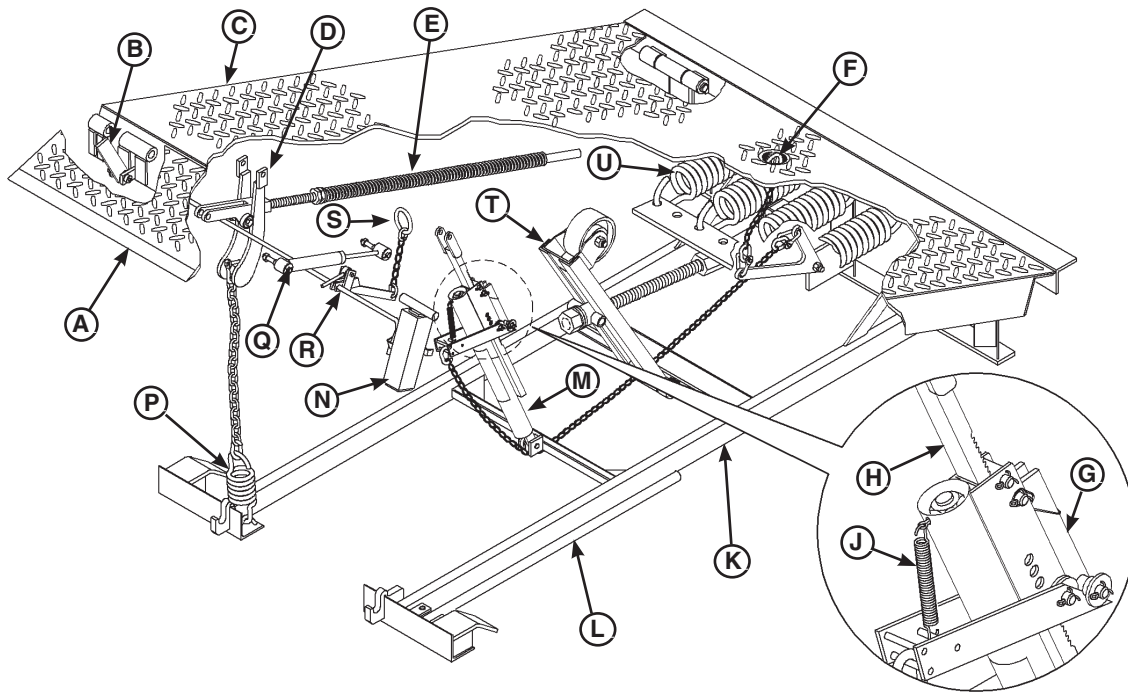

Figure 11
The HM-Series mechanical dock leveler uses lift springs (U) to apply force to lift arm (T). The lift arm pushes against the cam mounted under the platform (C), rolling on the cam (not pictured), forcing the platform to rise. The force of the spring is just enough to lift the weight of the platform (Figure 11).
To actuate the dock leveler platform, the operator pulls and holds the platform release ring (F) located in the recess at the rear of the platform. This allows ratchet pawl (G) to disengage from ratchet bar (H). With the ratchet pawl disengaged, spring tension from lift springs (U) forces the platform to rise (Figure 11).
**NOTE:** Ratchet pawl (G) and bar (H) are part of the hold-down mechanism (M).
The ratchet pawl disengages only when the platform release ring (F) is pulled AND held. Spring tension from release arm spring (J) causes the ratchet pawl to engage the ratchet bar when the release ring is let go (Figure 11).
When the platform rises to approximately 2 – 3 inches (51 – 76 mm) from its full raised height, the snubber spring (P) and a chain pulls the lip banger (D) forward. This, in conjunction with the lip assist spring (E), causes the lip linkage to push the lip out and up. The lip assist spring also helps control the amount of time required for the lip to fully fold (Figure 11).
The hold-down mechanism (M) will keep the platform at the desired position until the platform release ring is pulled again (Figure 11).